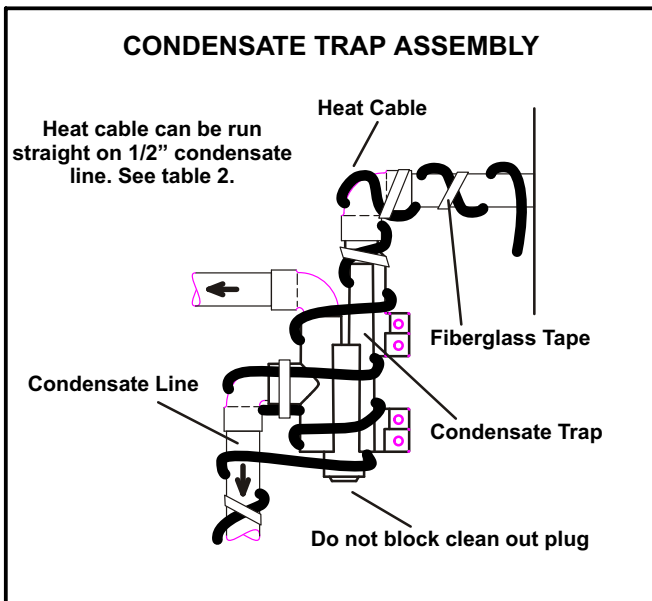

FIGURE 3
- 7 - Refer to figure 3 for condensate trap assembly.